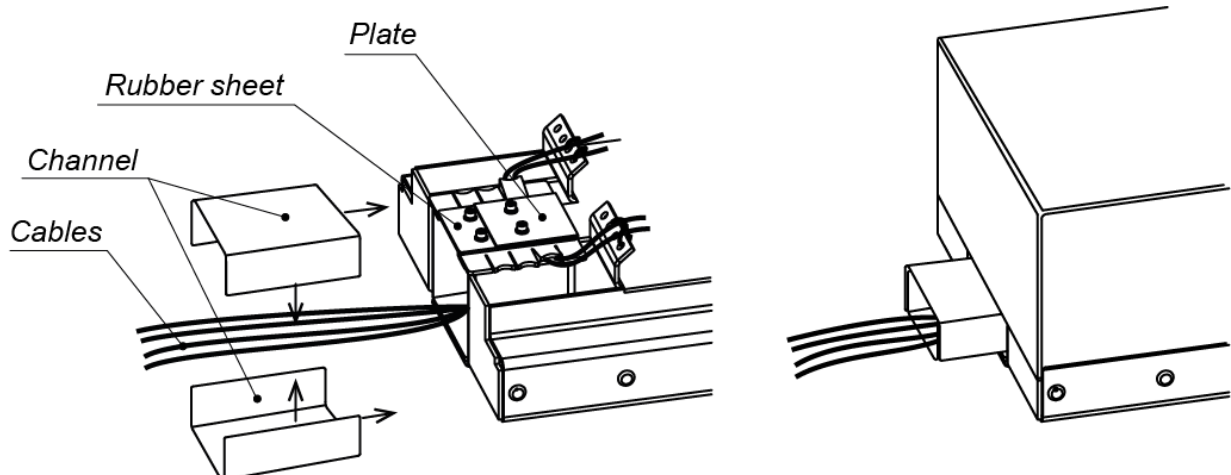

Figure 21. Cable laying between two turnstiles
22. Use the channel from the delivery set in order to lay out the cables atop to connect turnstiles standing close to each other (Fig. 21). Remove the protective inserts prior to the installation of the channels, unscrew two M4 screws (SW3 key). The larger channel should be located above.